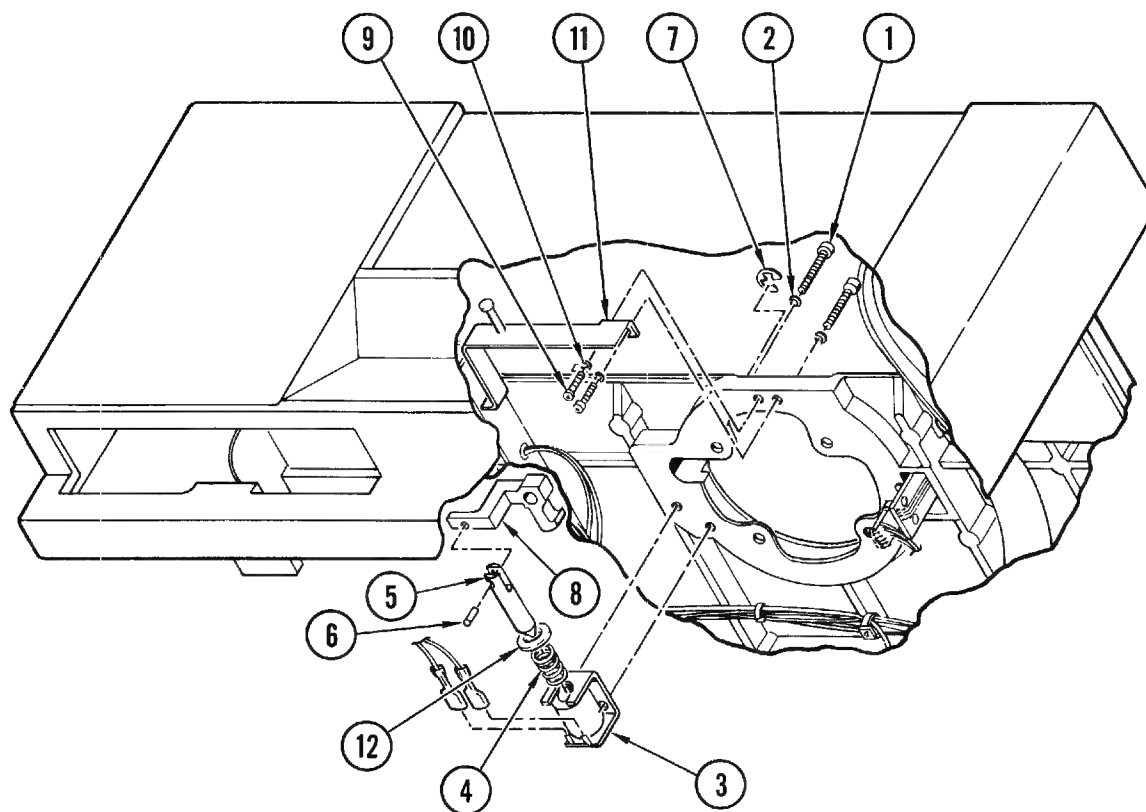

Figure 4-29. Hub Lock Assembly
**4-45. Disassembly, Removal and Replacement (Figure 4-29).** To disassemble hub lock assembly and remove parts from top plate and supply motor, proceed as follows:
- c. Remove wire terminals from solenoid (3, Figure 4-29) and identify for reassembly.
- d. Remove two screws (1), and lockwashers (2), and remove solenoid (3) from top plate and spring (4) and washer (12) from solenoid plunger (5).
- e. If plunger (5) or bellcrank (8) must be replaced, remove supply motor in accordance with instructions in paragraph 4-44. Remove retaining ring (7) and bellcrank (8) from motor, and press out pin (6), releasing plunger (5).
- a. Install bellcrank (8) on supply motor with retaining ring (7). Reinstall motor on top plate in accordance with instructions in paragraph 4-44.
- b. Complete reassembly and reinstall solenoid (3) on top plate in reverse sequence of steps c and d, paragraph 4-45.
**4-47. Manual Unlock Assembly (Hub Lock) (Figure 4-29).** To replace the manual unlock assembly or one of its parts, proceed as follows:
- b. Remove manual unlock assembly (11) from top plate by removing two screws (9, Figure 4-29) and lockwashers (10).